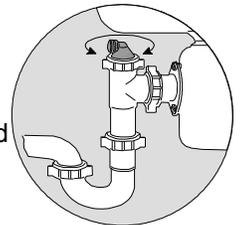

FIG. 4
7. Rotate push-in connector towards incoming reject water drain tubing and secure tightly with wing nut. (See Fig. 4)